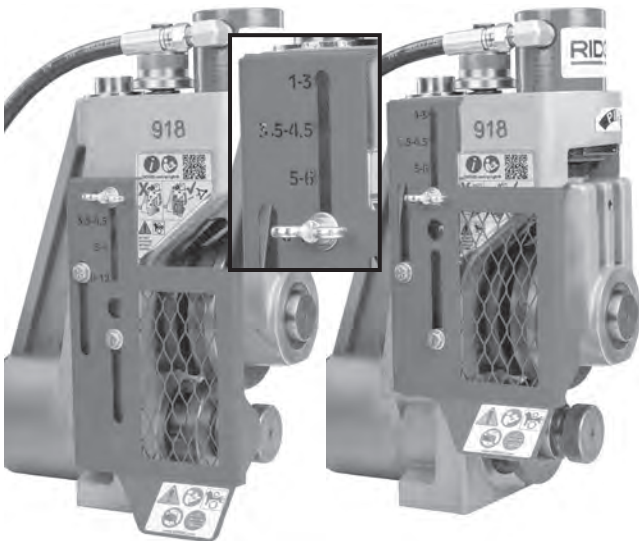

Figure 10 – Setting Adjustable Guard
3. Loosen the wing-screw. Adjust the position of the guard so that the correct range of sizes aligns with the position of the wing-screw. Properly adjust guard to reduce the risk of entanglement and serious injury (Figure 10).